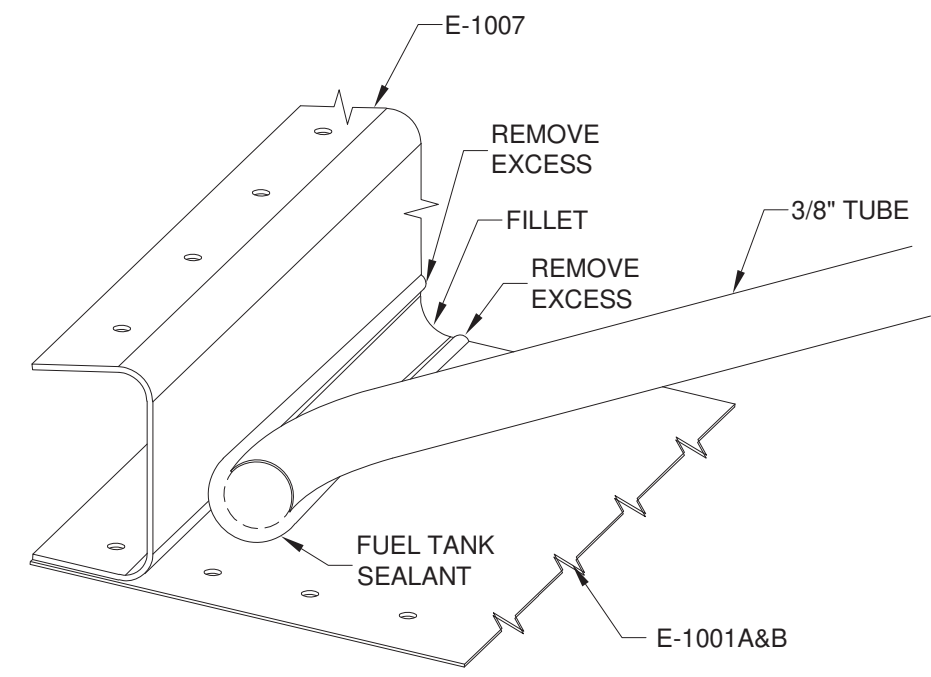

FIGURE 1: SEALANT FILLET
NOTE: Minimize the application of excess fuel tank sealant. Squeeze out sealant slowly, so that the bead ahead of the tube is only slightly wider than the tube itself. See Figure 1.
Step 3: Trim the end of a wooden rod to a sharp, flat, spatula-like wedge. Use it to scrape off excess sealant which might have been applied beyond the fillet. See Figure 1.